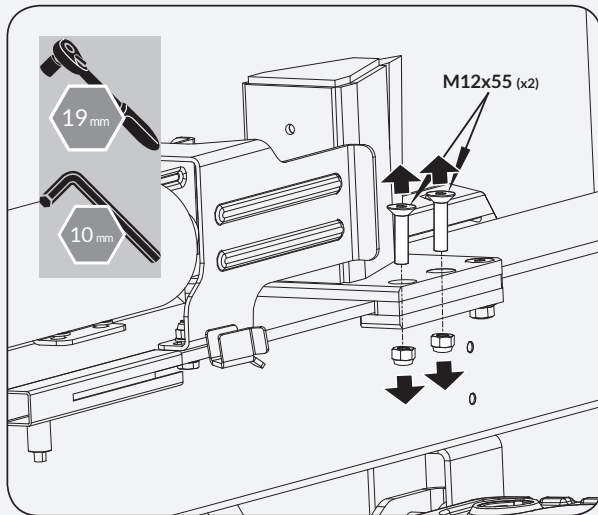

Figure 13a
1. Remove the two sets of hexagon recessed head screw M12x55 that fix the guide slide plate with the wedge. (See **Figure 13a**)